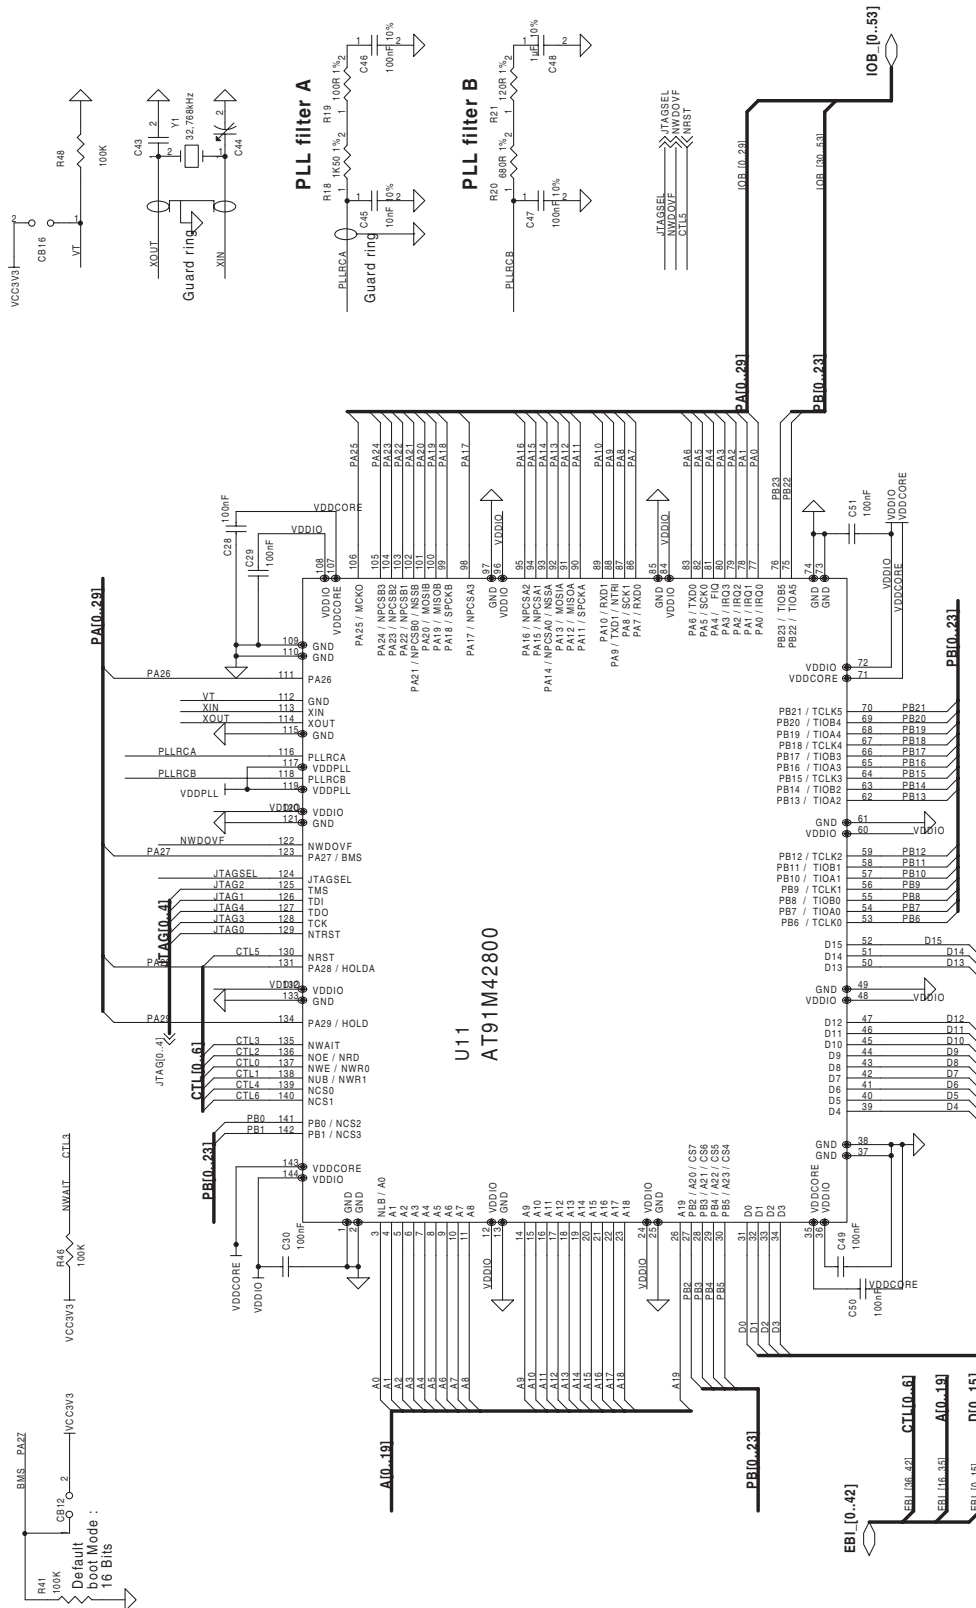

Figure 6-7. Reset and JTAG Interface
- Figure 6-7. Reset and JTAG Interface
- P5 = JTAG Interface (Figure 6-7)